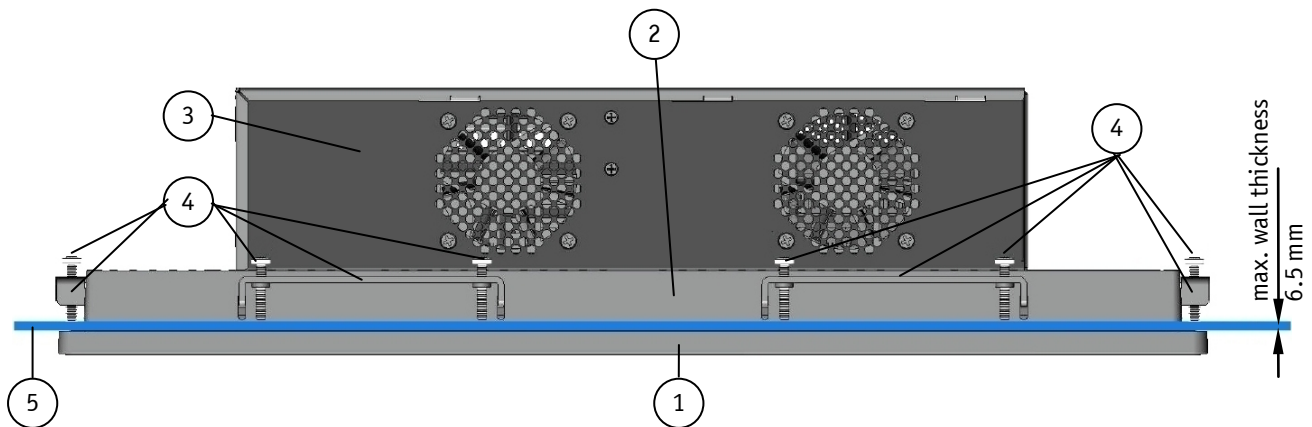

Fig. 36: Wall/panel mounting of the OmniClient by use of the mounting clamps
7. The system must be attached firmly by tighten the screws (refer to Fig. 26, pos. 8 and Fig. 36, pos. 4). Refer also to the mounting requirements included in Table 5.